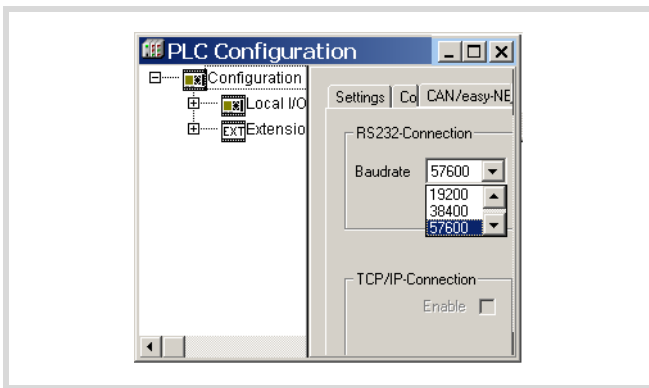

Figure 74: Specifying the CPU's communication settings
The CPU parameters can then be defined again (→ figure 74), always making sure that you have the same settings on the PC.
- ▶ In the Baud rate list box select the baud rate (e.g. 57600 Bit/s as shown in figure 74).